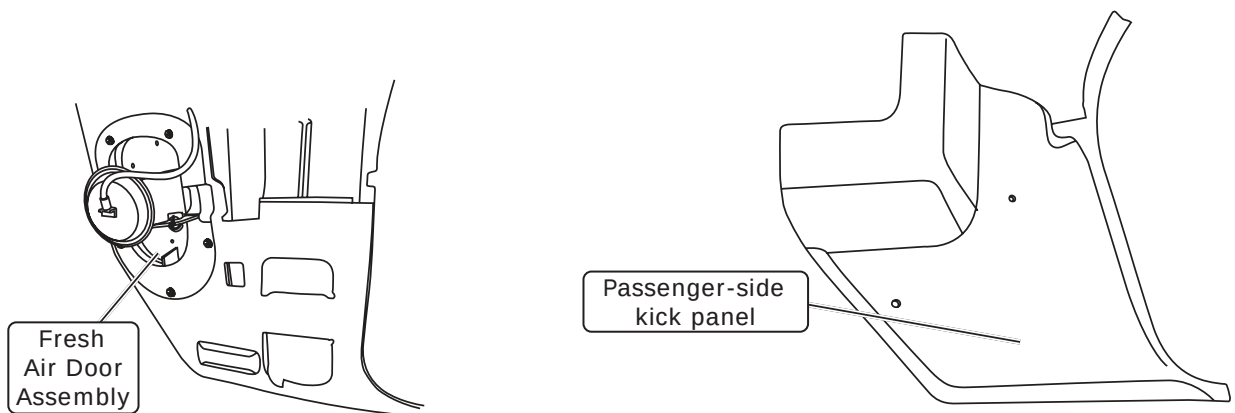

Figure 1a
8. Remove the passenger-side kick panel fresh air door assembly as shown in Figure 1a, below.